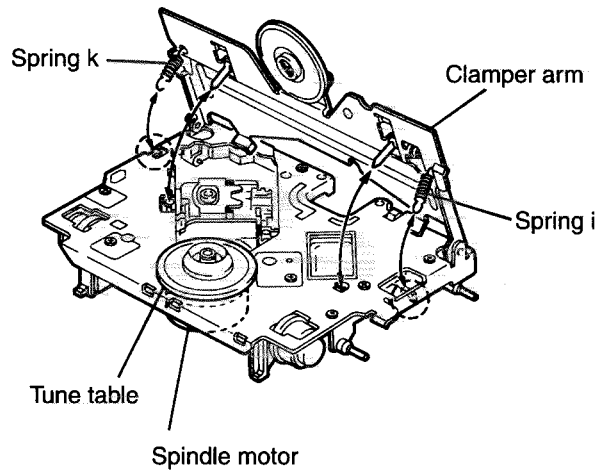

Fig. 14
- 1.Remove the belt from the loading motor (See Fig.14 and Fig.15)
1. After turning back the CD mechanism to initial position, remove the two sparrings k and i on both the right and left sides of the clamper arm (See Fig. 14 and Fig. 15).